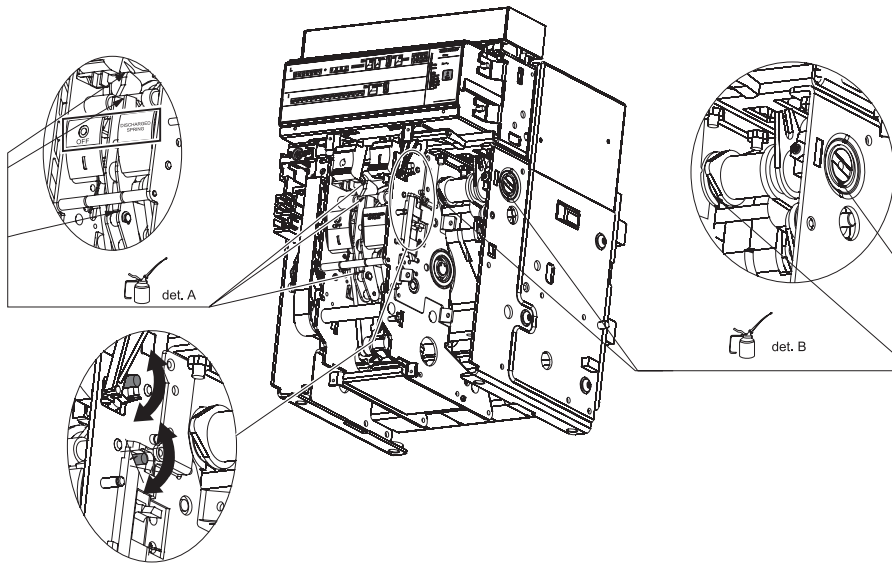

Fig. 46
- Clean (use a cleaning product such as Henkel's 273471 or equivalent if there is a heavy coating of dirt) and lubricate (in the points indicated in figure 46, det. A, as per the First Level) the shafts and opening closing latches with MOBILGREASE 28 (EXXON MOBIL).
- Clean (use a cleaning product such as Henkel's 273471 or equivalent if there is a heavy coating of dirt) and lubricate the operating shaft supports, including those on the sides of the circuit-breaker (see figure 46, det. B) with MOBILGREASE 28 (EXXON MOBIL).
- Re-assemble the escutcheon plate as shown in figure 46.